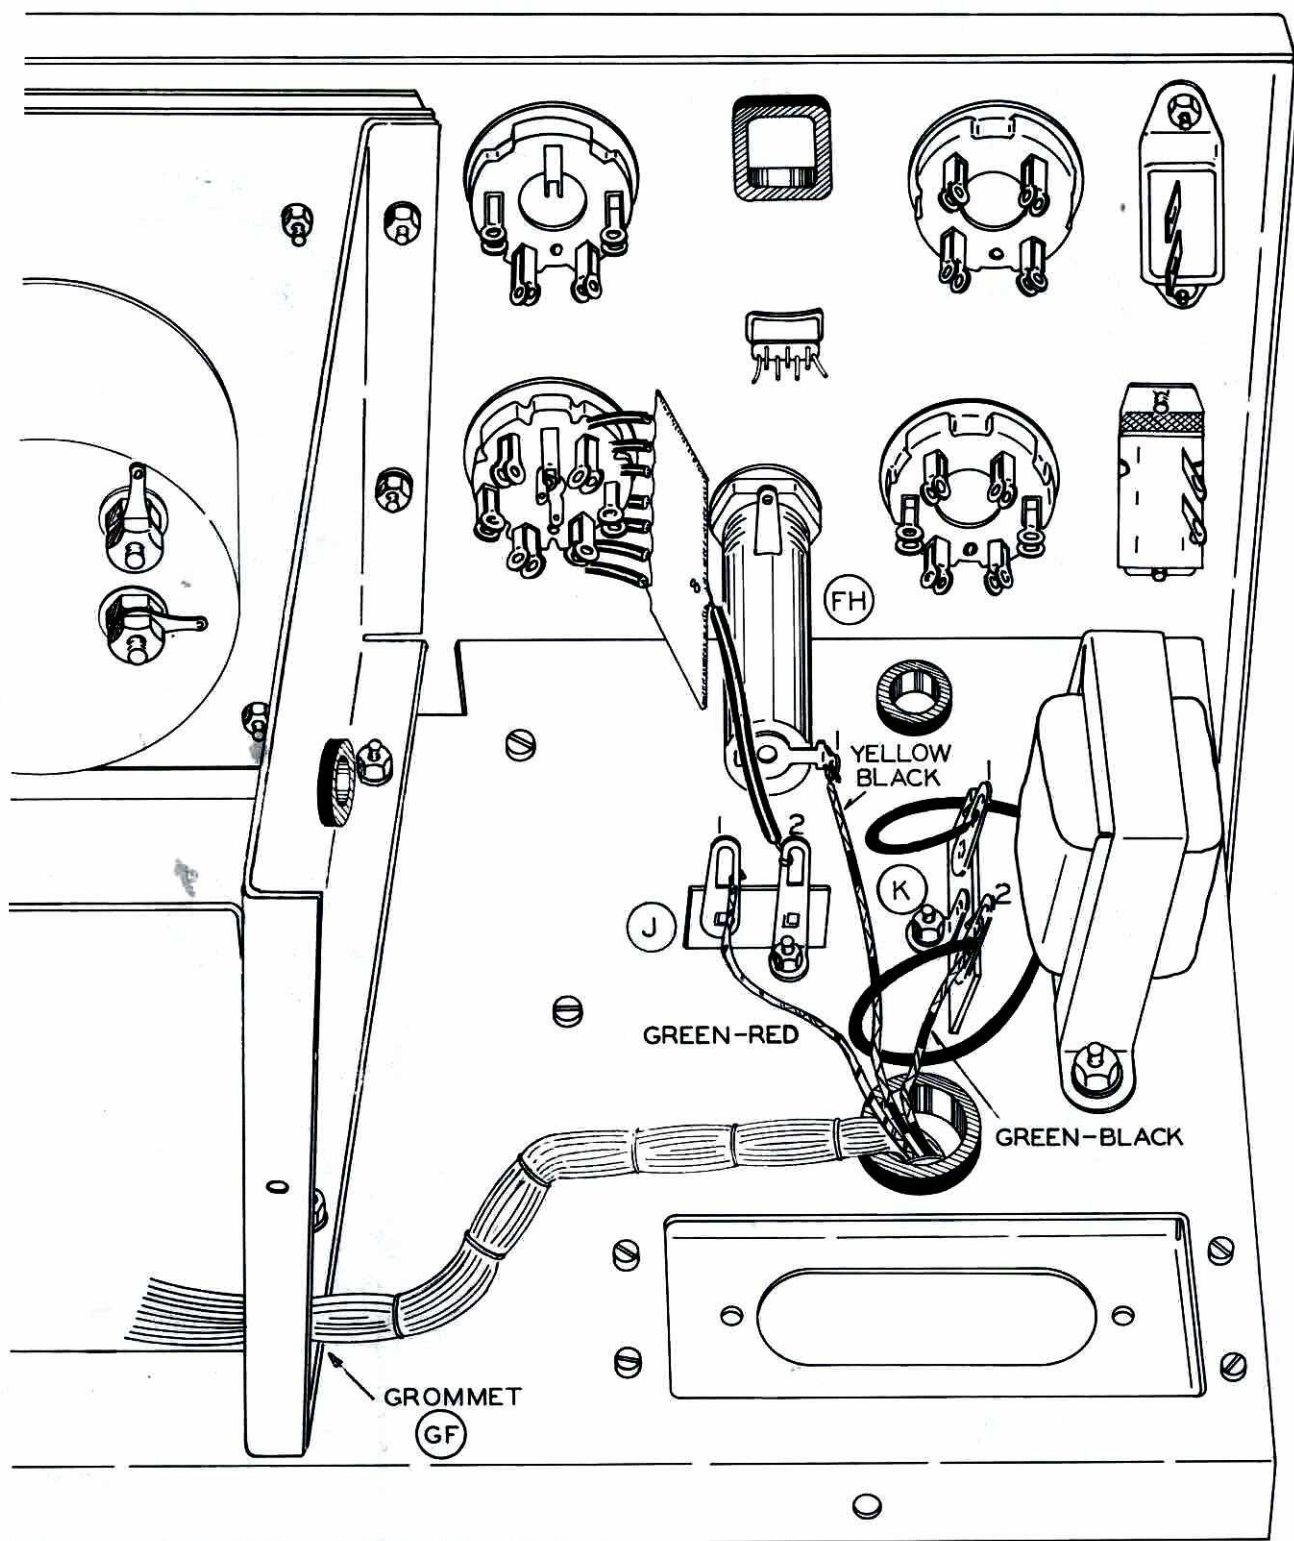
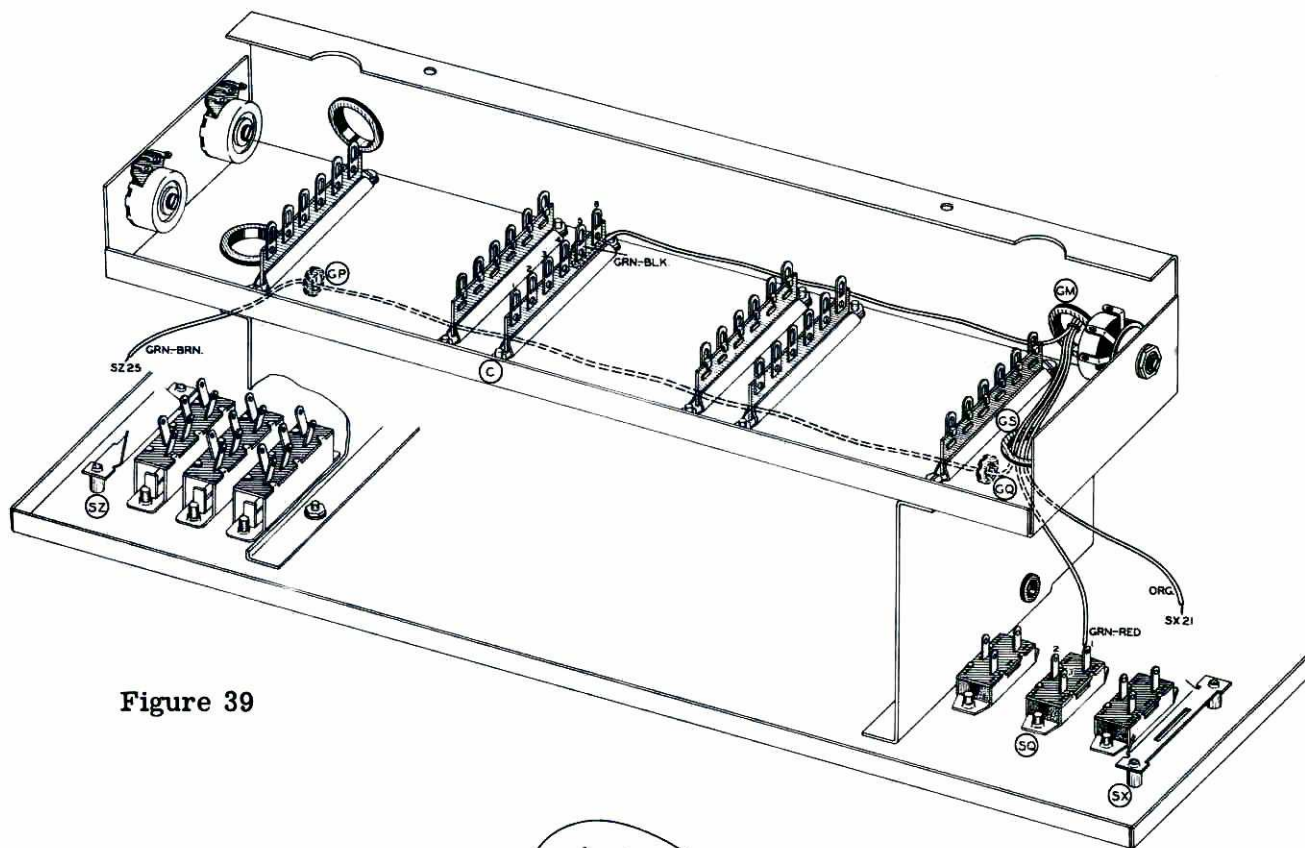

Figure 38
Figure 39
- () Above the chassis, bend the cable at right angles as shown and pass the transformer end of the cable through grommet GF. See Figure 38.
- () Connect the two choke leads to K1 (NS) and K2 (NS).
- () Connect the green-red lead to J1 (NS).
- () On the subchassis, pass all leads, except green-black, through GS. Connect the green-black lead to C5 (NS). See Figure 39.